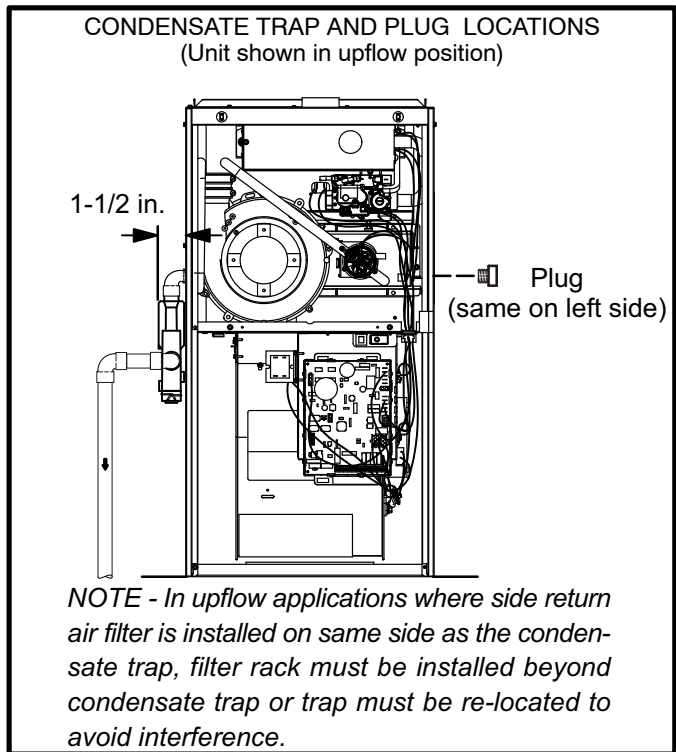

FIGURE 38
This unit is designed for either right- or left-side exit of condensate piping in upflow applications. In horizontal applications, the condensate trap must extend below the unit. An 8" service clearance is required for the condensate trap. Refer to figures 38 and 40 for condensate trap locations. Figures 46 (3/4" drain connection) and 47 (1/2" drain connection) show trap assembly using 1/2" PVC or 3/4" PVC.
- 2 - For furnaces with a 1/2" drain connection use a 3/8 allen wrench and remove plug (figure 38) from the cold end header box at the appropriate location on the side of the unit. Install field-provided 1/2 NPT male fitting into cold end header box. For furnaces with a 3/4" drain connection use a large flat head screw driver or a 1/2" drive socket extension and remove plug. Install provided 3/4 NPT street elbow fitting into cold end header box. Use Teflon tape or appropriate pipe dope